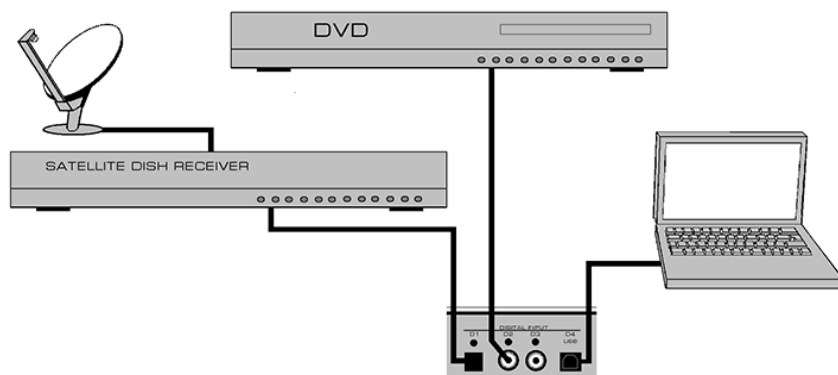

Figure 2: Nëo 350P Optional Digital Inputs – connection examples
There are two (2) different settings available for setting the resistive load; 100Ω and 47kΩ which are represented by jumper sockets R12 for the left channel and jumper socket R29 for the right channel (refer to figure 2 – section labeled "LOADING"). The factory default setting is 47kΩ, therefore both jumpers will be found in each of the two left most sockets.
There are two (2) different settings available for the capacitive load; 0pF and 100pF which are represented by jumper sockets C9 for the left channel and jumper sockets C17 for the right channel (refer to figure 2 – section labeled "LOADING"). The factory default setting is 100pF for a moving magnet cartridge, therefore both jumpers will be found in each of the two right most sockets.
There are two (2) different settings available for gain level. They are 40dB for MM cartridges and 60dB for MC cartridges, which are represented by jumper socket J18 for the left channel and jumper socket J24 for the right channel (refer to figure 2 – section labeled "GAIN"). The factory default setting is for a MM cartridge, therefore both jumpers will be found in each of the two right most sockets labeled MM; ***It is highly recommended that you do not use the jumpers labeled MC for an MM cartridge as this will overload the 350P.*** When using a MC cartridge, you should insert the supplied jumpers into each of the two left-most sockets labeled MC.
The rear panel will look similar to Figure 2 (above). There are two (2) pairs of balanced analog inputs on XLR connectors labeled “B1” and “B2” with their respective left and right channel connections beside each other. Immediately below are four (4) pairs of single-ended analog inputs on RCA connectors labeled CD, A1, A2/HT and A3/PH. The RCA input and output connectors on the rear panel have been color coded: ‘white’ for the left channel and ‘red’ for the right channel. If your **Nêo 350P** is equipped with the optional phono section, the input labeled ‘A3/P’ must be used to connect your turntable interconnect leads to this preamplifier. If you don’t have the optional phono section installed, then this input can be used in the same way as CD, A1 and A2 inputs. This preamplifier is also equipped with a single-ended monitor loop; the input and output connectors for each channel are located to the right of the four pairs of single-ended analog inputs.